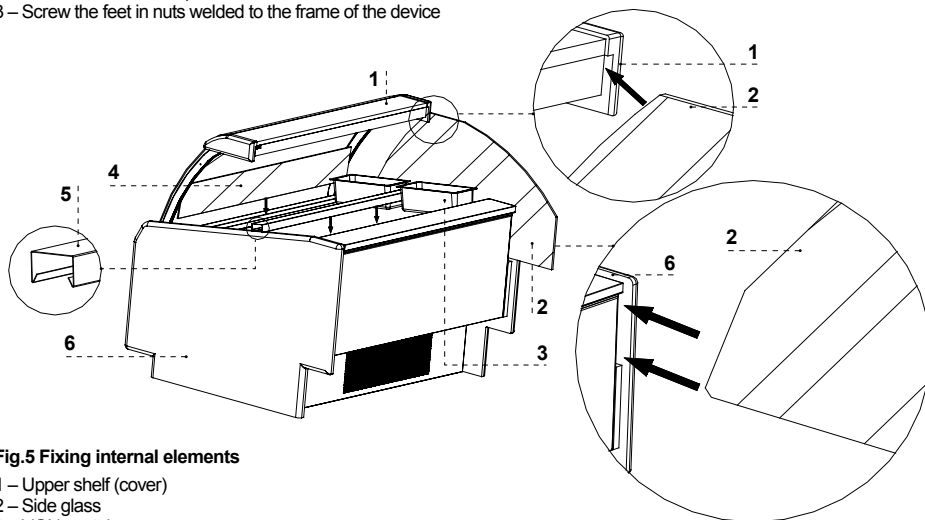

Fig.5 Fixing internal elements
1. Place cross-bars under VGN containers Fig.5/5 (p.14)
3. Slide in glass sides according to Fig.5/2 (p.14)